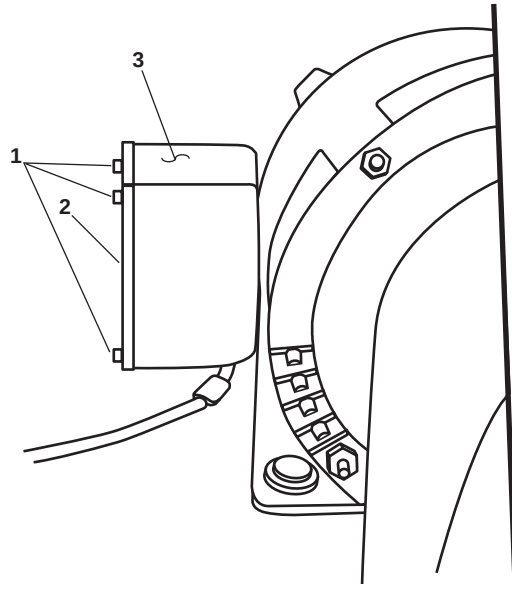

Figure 1. Electrical Junction Box
1. Remove the four screws (figure 1, item 1) that secure the junction box cover (figure 1, item 2).
2. Remove the junction box cover (figure 1, item 2) from the junction box (figure 1, item 3).
3. Use a multimeter to check for voltage at the wiring in the junction box (figure 1, item 3). If voltage is present, check that the proper circuit breaker is set to OFF, locked out, and tagged out (FM 55-502). If no voltage is present, continue with the procedure.
4. Label and remove the wiring in the junction box (figure 1, item 3).